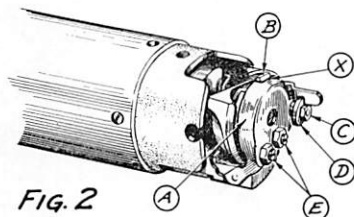
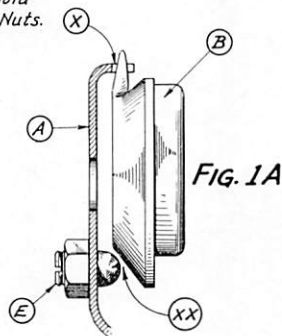

FIG. 2
FIG. 1A
Excessive clearance at (XX) Fig. 1A will cause rattling of Bobbin Case (B).
Adjust for clearance at point (X) Fig 1A by means of Adjusting Screws (E) Fig 2 using same procedure as outlined in the above 2nd STEP.
The clearance between Bobbin Holder (A) and Bobbin (B) at (X) (See Figs. 2 and 1A) should be approximately  $\frac{1}{32}$  of an inch. To adjust, loosen Lock Nut (C) Fig. 2 and turn Threaded washer (D) in or out until the desired clearance is obtained. Holding Threaded Washer (D) in position, tighten Lock Nut (C) securely.